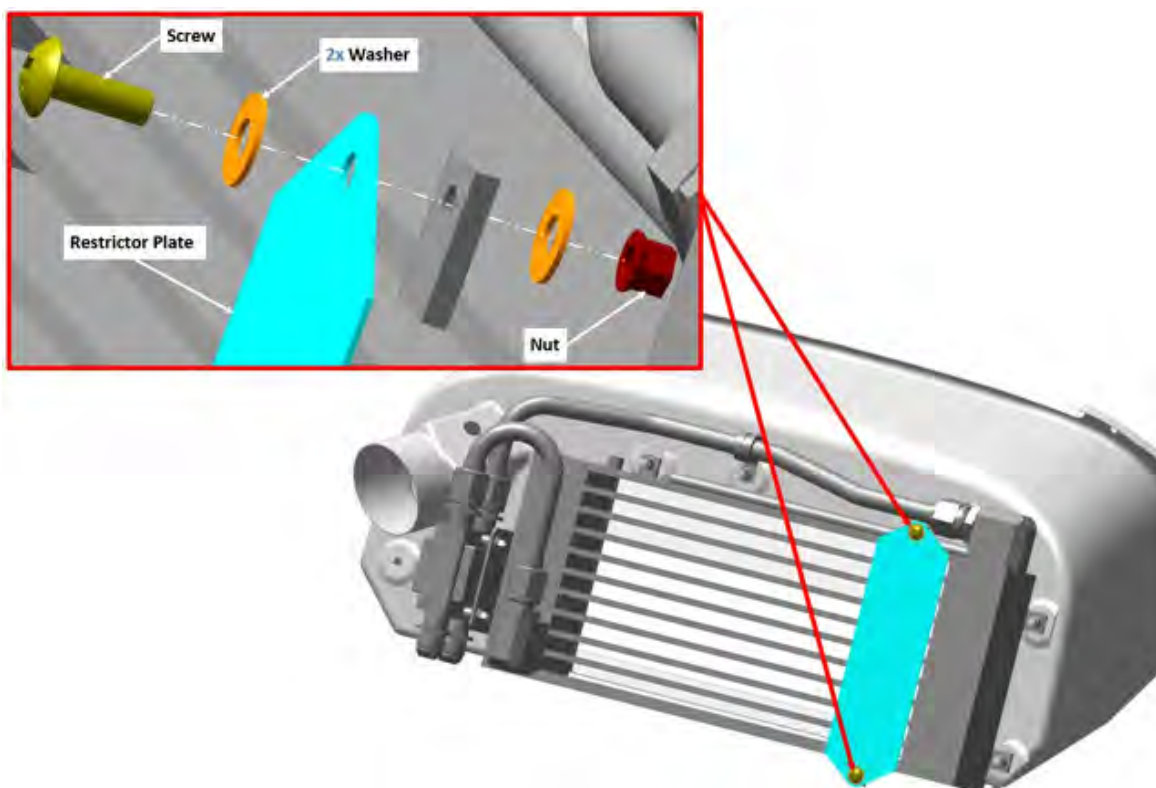

FIGURE 16-49
1. Install the Restrictor Plate. (See Figure 16-49.) Torque fasteners to 13 in-lbs.